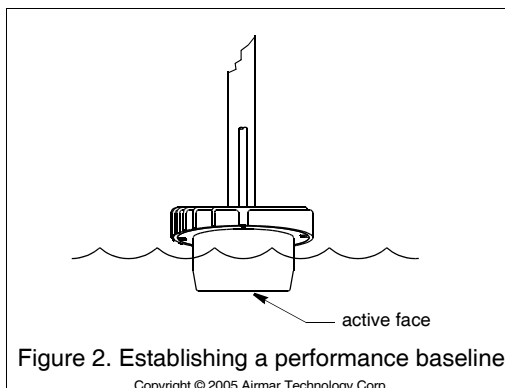

Figure 2. Establishing a performance baseline
3. Tape the transducer to a pole with the cable side up. Hold it over the side of the boat with the active face fully submerged and parallel to the water surface (Figure 2).